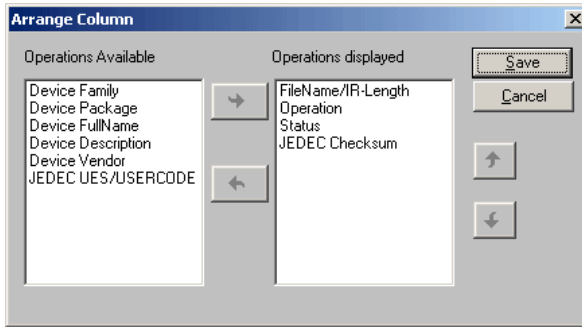

Figure 2-19. Arrange Column dialog
1. Choose **Options** ⇒ **Arrange Column** to open the Arrange Column dialog (Figure 2-19).